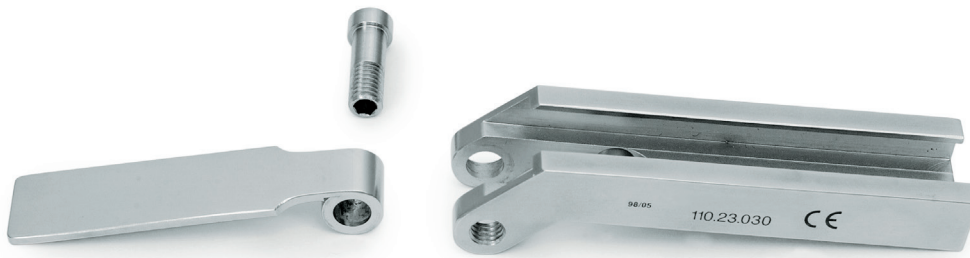

Figure 2: Disassembled state
1. Fully unthread the screw from the handle piece and angle meter as shown in disassembled state (Figure 2).